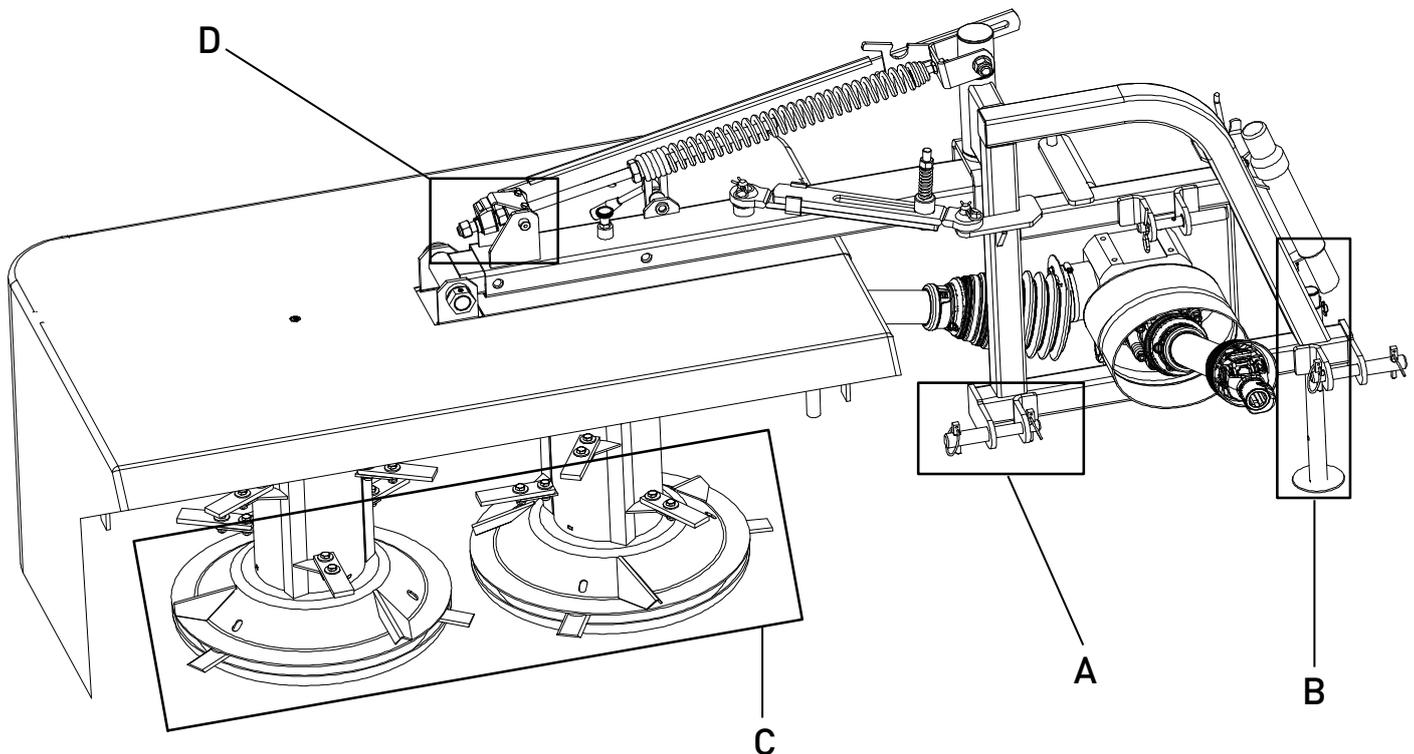

Figure 1 Sarracenia 130.
- In order to reduce the load of the machine on the ground and to be parallel to the ground adjust spring tension using their corresponding bolts. **(Point D Figure1).**
2. Rotate the shear pins to Cat. I or Cat. II depending on your tractor type. Connect the lifting bars of the tractor to the shear pins. **(Point A Figure 1)**
3. Lift the stand of the machine. **(Point B Figure 1)**
4. Connect the three point to the upper hitch link and adjust length so that the mower is parallel to the ground. **(Point C Figure 1)**
5. Adjust the tension of the spring to the value of 95,00 (Big tractor). **(Point D Figure 1)**